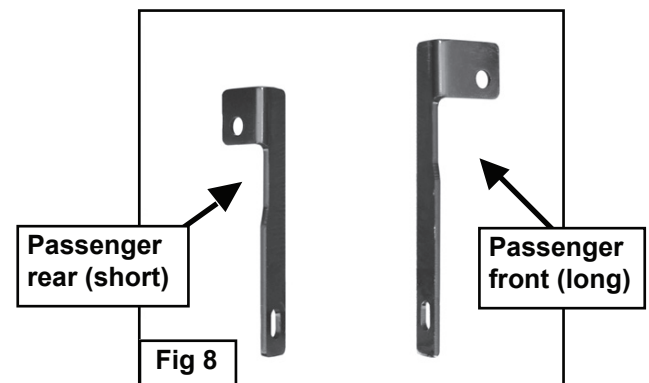

Fig 8
Select the passenger side front Support Bracket (long), (Figure 8). Attach the Bracket to the Bolt Plate with (1) 10mm Flat Washer, (1) 10mm Lock Washer and (1) 10mm Hex Nut, (Figure 9). **NOTE:** Place the lower flat end of the Support Bracket against the front facing side of the Mounting Bracket. The bent tab on the top of the Support Bracket should face the front of the vehicle. Do not tighten hardware.
Remove the tape covering the hole in the inner rocker panel and install (1) Bolt Plate as described in Step 4, (Figure 13). Select the passenger side rear Support Bracket, (short), (Figure 8). Attach the bent end of the top of the Bracket to the Bolt Plate with (1) 10mm Flat Washer, (1) 10mm Lock Washer and (1) 10mm Hex Nut, (Figures 13 & 14). NOTE: Place Support Bracket against the front facing side of the Mounting Bracket. The bent tab on the top of the rear Support Bracket should face the rear of the vehicle.